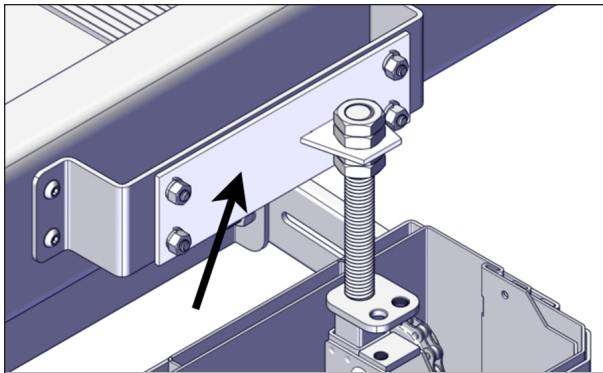

FIGURE 109: JACK ADAPTER SCREW RE-INSTALLATION
- Gently slide down the sleeve assembly, see Figure 109.
- Reinstall the jack adapters, but not the sleeves. Reinstall the 1/4-20 x 3/4" carriage bolts (4), see Figure 109.